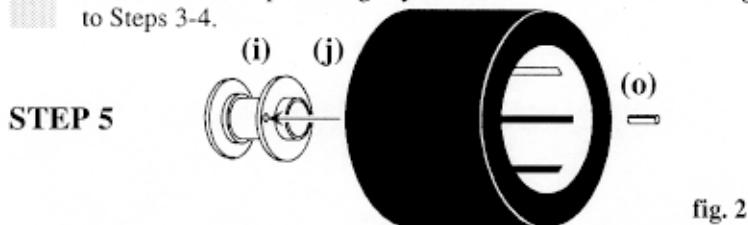

fig. 2
STEP 5 RACER'S SETUP: The right wheel is clamped into the diff, and not bolted onto the right diff hub as is done in most 1:10 scale cars. This is common to most 1:12 scale cars and was done to reduce weight. So the wheel doesn't slip separately from the diff, pin the wheel to the diff hub spacer with the 1/16" roll pin (o, fig. 2) as follows. With the diff completely assembled, drill a hole through one of the wheel screw mounting holes into the diff hub spacer (i) with a 1/16" drill bit and power drill. Now disassemble the diff and, using a pair of pliers, press the roll pin (o) into the hole you just drilled, enough so the pin sticks out the back of the hub spacer slightly. Reassemble the diff according to Steps 3-4.